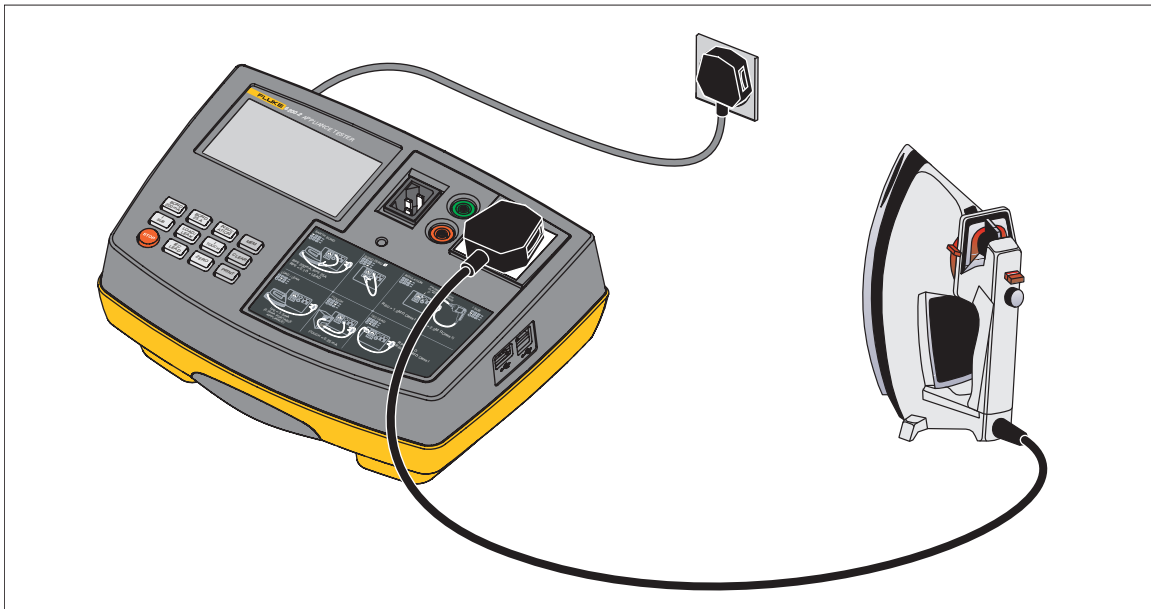

Figure 5. Load/Leakage Connections
1. Connect the appliance and the test lead as indicated on the Tester, see Figure 5.